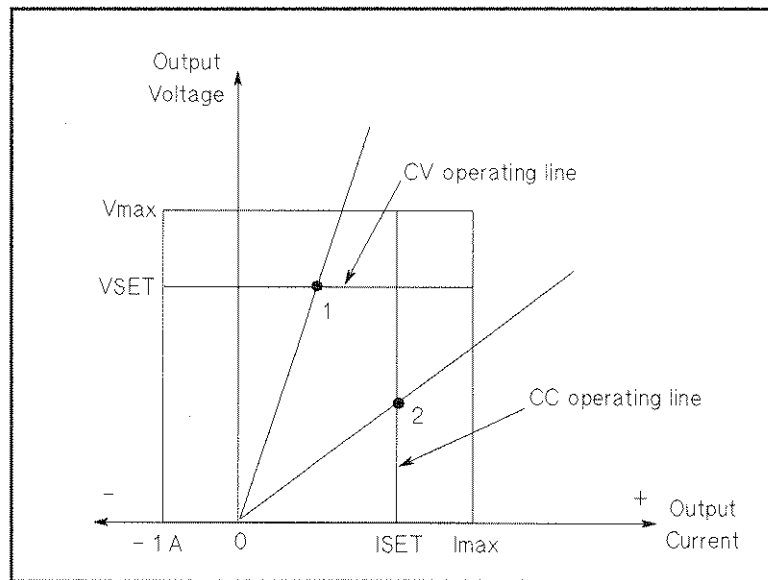

Figure 2-1. Dc Source Output Characteristic
The dc source can operate in either constant voltage (CV) or constant current (CC) over the rated output voltage and current. Figure 2-1 shows a single range –two quadrant capability. This means that the dc source is capable of sourcing as well as sinking current over the output voltage range from zero volts to the rated maximum. The negative current sinking capability of the dc source is not programmable, and is fixed at a maximum of 1 A.
The operating point of the unit is determined by the voltage setting, current setting, and the load resistance. In figure 2-1, operating point 1 is defined by the load line traversing the positive operating quadrant in the constant voltage region. Operating point 2 is defined by the load line traversing the positive operating quadrant in the constant current region.